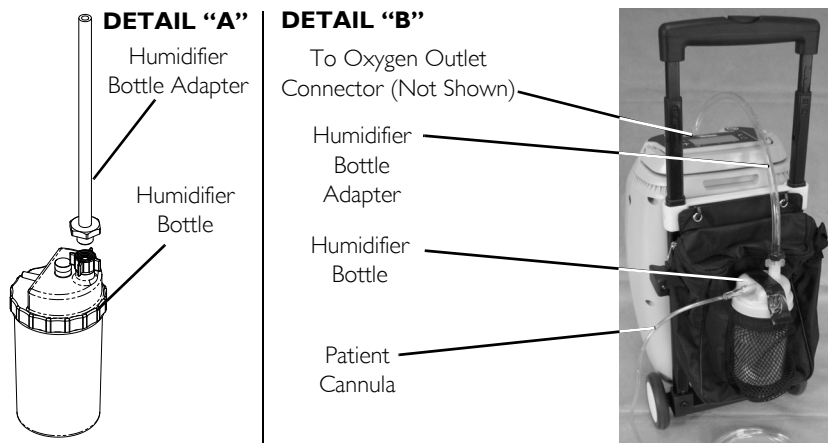

FIGURE 6.4 Humidifier Attachment
NOTE: For this procedure, refer to FIGURE 6.3 and FIGURE 6.4 on page 25.
3. Attach the humidifier bottle adapter to the humidifier bottle by turning the wing nut on the humidifier bottle counterclockwise until it is securely fastened. See DETAIL “A” in FIGURE 6.4.
4. Place the humidifier bottle/adapter assembly in the outside pocket of the accessory bag. Attach the accessory bag to the pull cart as shown in FIGURE 6.4.
6. Attach oxygen tubing from the humidifier bottle/adapter assembly to oxygen outlet connector on the concentrator. See DETAIL “B” in FIGURE 6.4.
7. Attach the cannula/patient supply tubing to the humidifier bottle outlet. See DETAIL “B” in FIGURE 6.4.